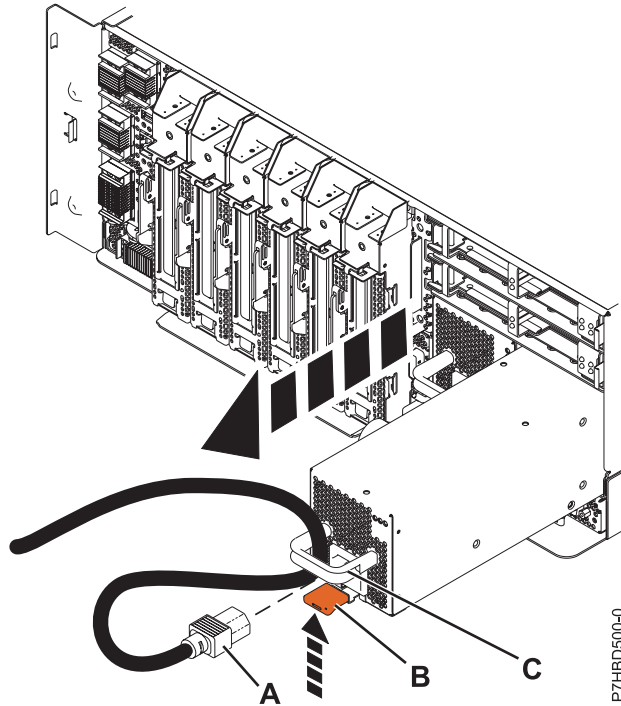

Figure 2. Removing the power supply
5. Disconnect the power cord (A).
6. Lift the tab (B) toward the power cord retainer (C) to release the power supply.
7. Pull the power supply away from the system, as shown in Figure 2 on page 4.